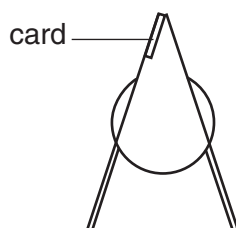

Fig. 1.2
- 1 If either of the bulldog clips is unable to grip a single sheet of paper, use double-sided tape or glue to attach a piece of card along the length of one of the jaws, as shown in Fig.1.2.